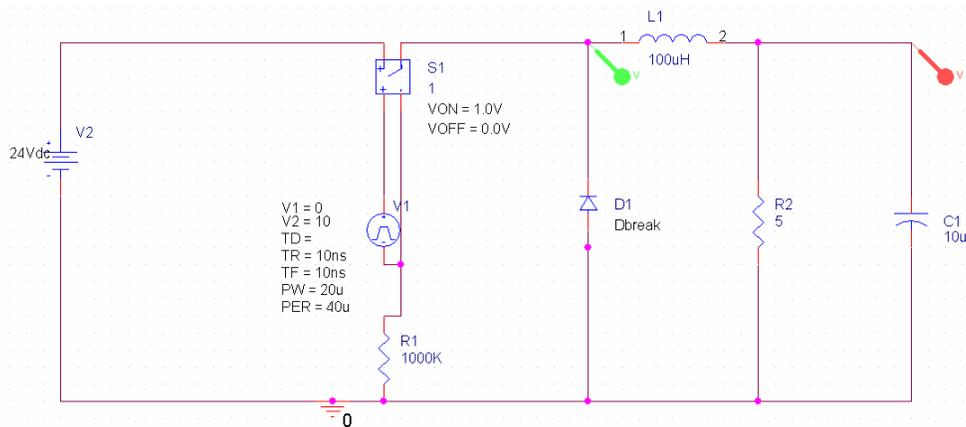

Figure1. Buck schematic on CAPTURE CIS®
**Part 1:** Build the schematic shown in Figure 1.
Two **voltage markers** need to be placed as shown in the schematic of figure 1.